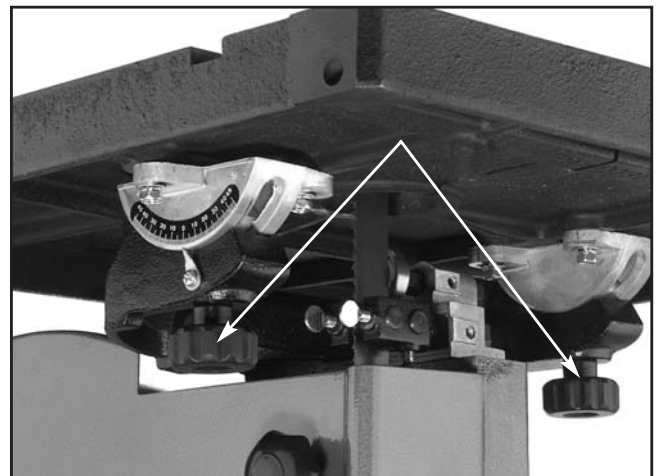

Figure 31. Plastic trunnion knobs.
1. Loosen the two plastic knobs underneath the table as shown in **Figure 31**.